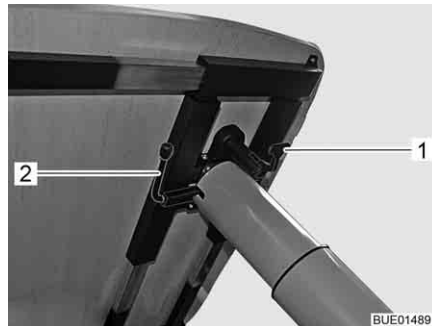

Fig. 107 Adjustment of lift-off table
- Fold lever (Fig. 107,1) downward.
- Swivel the lever (Fig. 107,2) underneath the table-top by 180° in an anti-clockwise direction. The lifting mechanism in the table leg is unlocked.
- Swivel the lever (Fig. 107,2) underneath the table-top by 180° in an anti-clockwise direction. The table-top moves upwards to the limit stop.